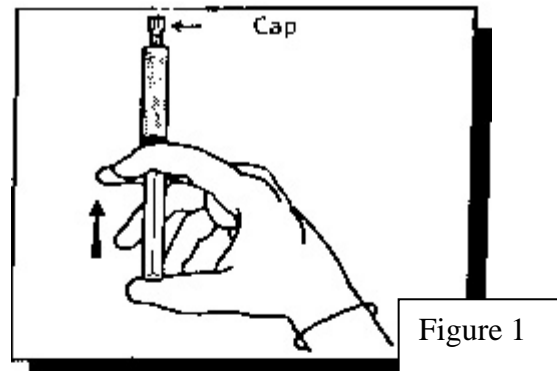

Figure 1
1. Hold the prefilled saline syringe upward (figure 1).
2. **Do not remove the cap.** Press on the plunger (figure 1). **DO NOT** pull back on the plunger.